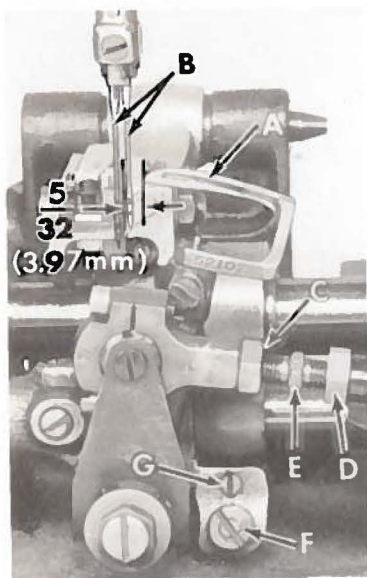

Fig. 6
Insert two new needles in the needle seat, type and size as specified. The looper gauge is  $\frac{5}{32}$  inch (3.97 mm), set the looper (A, Fig. 6) so the distance between the center of the two needles (B) to the point of the looper is  $\frac{5}{32}$  inch (3.97 mm), when the looper is at its farthest position to the right. Looper gauge No. 21225- $\frac{5}{32}$  can be used advantageously in making this adjustment.
If adjustment is required, loosen nut (C, Fig. 6) (it has a left hand thread) and nut (D) on connecting rod (E), turn the connecting rod forward or backward to obtain the  $\frac{5}{32}$  inch (3.97 mm) dimension. Retighten both nuts, first nut (D). Then nut (C). Make sure the left ball joint is in vertical position and does not bind after adjustment.
If adjustment is necessary, loosen lock screw (F, Fig. 6) and turn stop screw (G) as required. Turning stop screw clockwise sets the looper to the rear and turning it counterclockwise acts the reverse. Holding looper to the front while making